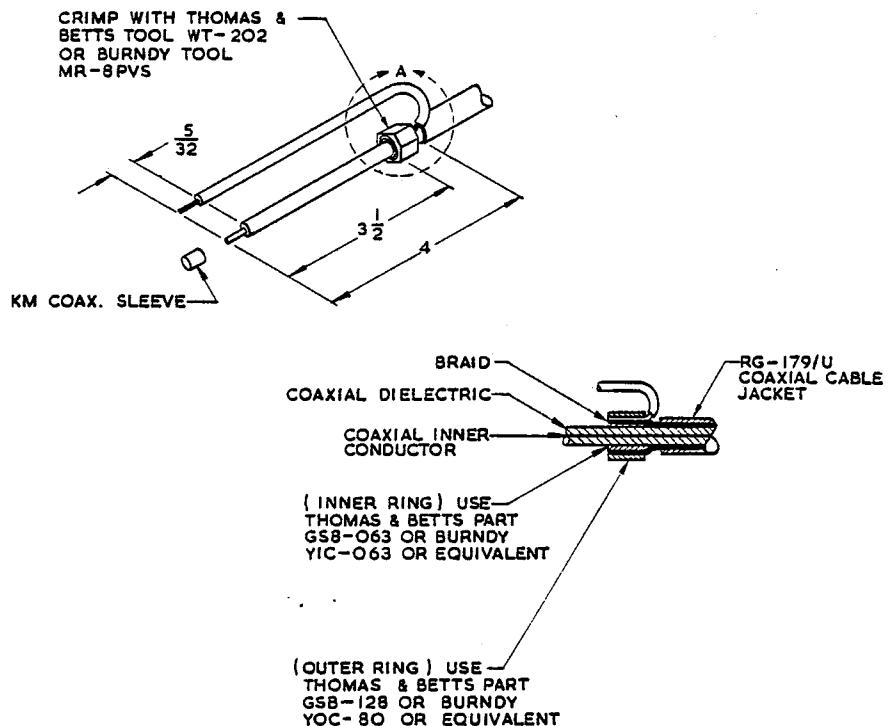

Fig. 12. Stripping and shielding RG-179/V coaxial cable
24. The attachment of the shield lead to the coaxial braid should be made before the final stripping fig.12.